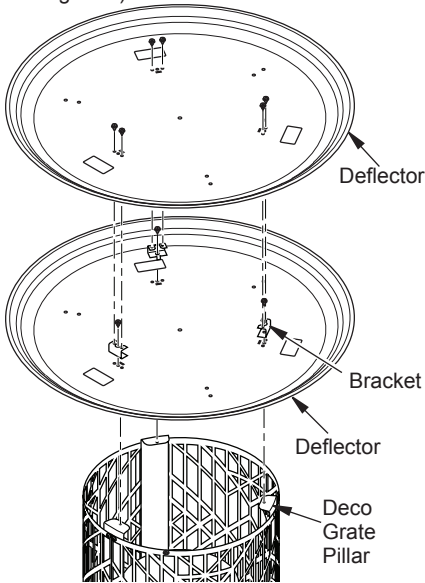

Figure 8 - Deflector Assembly
- Place one deflector over deco grate pillars. Attach deflector and brackets to pillars with 1 screw (C) through each of the 3 brackets. See Figure 8.
- Place second deflector over first deflector. Attach deflector to brackets with 2 screws (C) through the top of each bracket (see Figure 8).